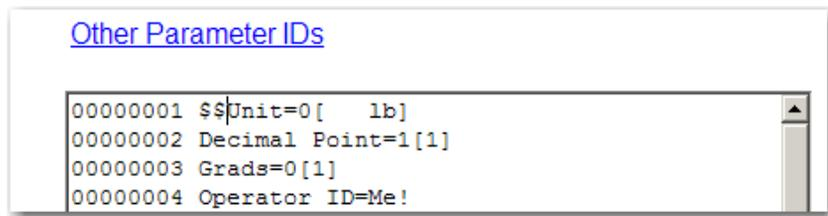

FIG. 300 PARAMETER DUMP/SECURING UNIT
- Step 5. Type two dollar signs for High security or one (1) dollar sign for Medium security.
In our example we entered two (2) dollar signs for High security. (See Fig. 300)